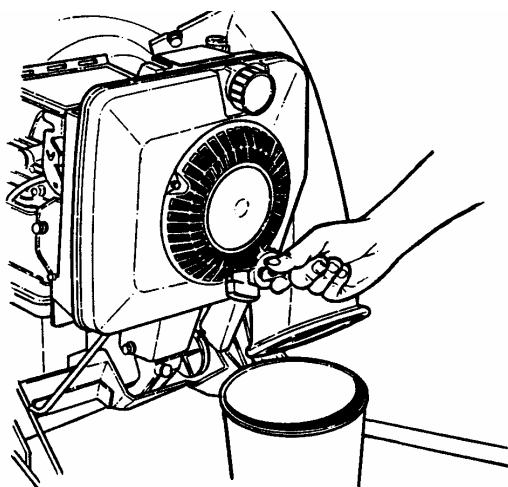

FIGURE 3.1
2. For simplest/cleanest oil change, loosen lower handle nuts and fold handles. Stand mower up on lower handle brackets as shown in Figure 3.1. Drain oil through dipstick tube into a container. Allow sufficient time for all oil to drain. NOTE: Drive control rod on self-propelled models prohibits handles from folding. Simply tip mower on its side to drain oil.